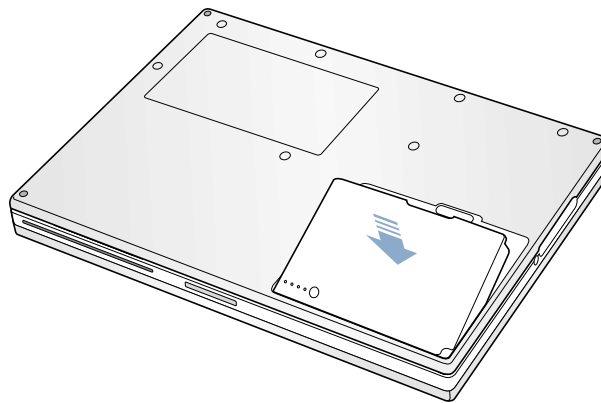

Figure 10
8. Replace the battery into the battery compartment (**Figure 10**).